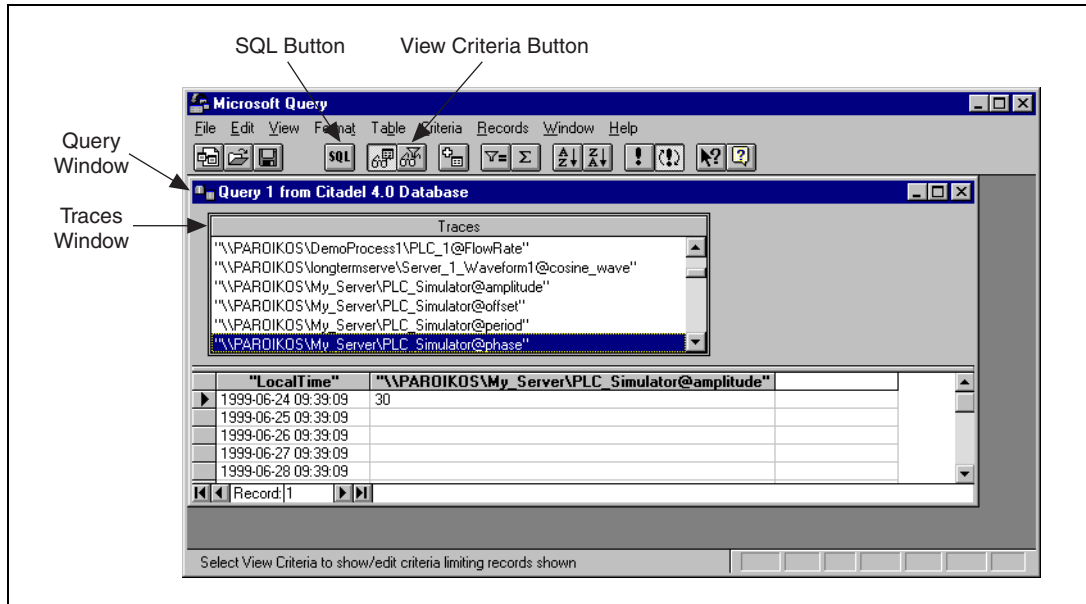

Figure A-1. The Query Window with Traces Table
6. To view a trace, double-click or drag the field you want to view to a blank column in the data pane. In Figure A-1, `LocalTime` and `My_Server\PLC_Simulator@amplitude` have been dragged down.
The data set in Figure A-1 was retrieved using no specific criteria, so the ODBC driver used the default. Although there are several ways to specify criteria, this example uses the criteria pane.